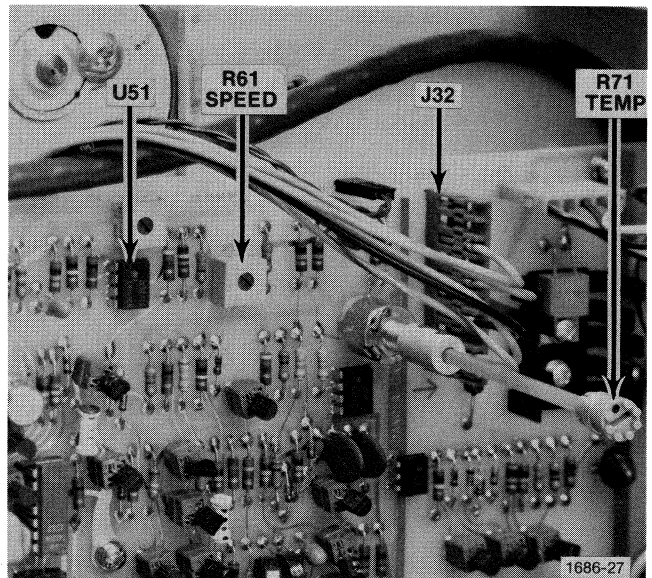

Fig. 4-4. Control board adjustment and test point locations.
3. Control Board (Fig. 4-4)
- (1) Rotate R61 on the Control board (Fig. 4-4) through its range.
- (2) CHECK that the motor speed varies smoothly as the control is rotated.
- (1) Connect the oscilloscope probe to pin 6 of U51 on the Control board (Fig. 4-4).
- (1) Connect 10X probe from test oscilloscope to pin 5 on J32 (Fig. 4-4). Set oscilloscope at 50 V/div, 10 ms/div, ac coupled and use storage mode.